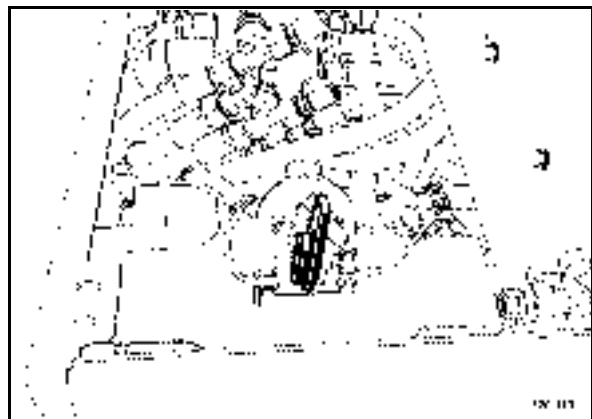

Fig. 74
- The main battery switch (Fig. 74) must be switched on.